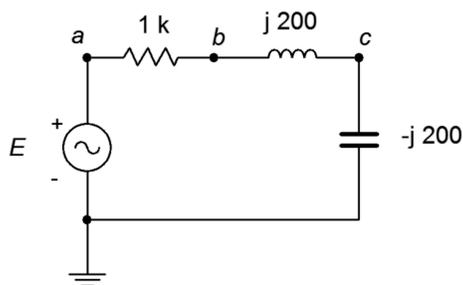

Figure 2.22
39. For the circuit of Figure 2.22, determine the circulating current and the voltages across each component.  $E$  is a 1 volt peak 2 kHz sine. Also, draw a phasor diagram of the four component voltages.
40. For the circuit of Figure 2.22, find  $v_b$  and  $v_{ca}$ .  $E$  is a 1 volt peak 2 kHz sine.